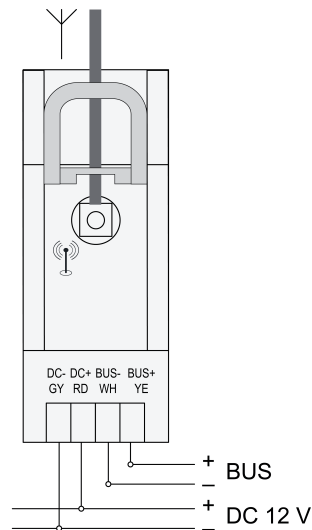

Figure 2: Connection diagram
- Connect the device according to the connection diagram (Figure 2).